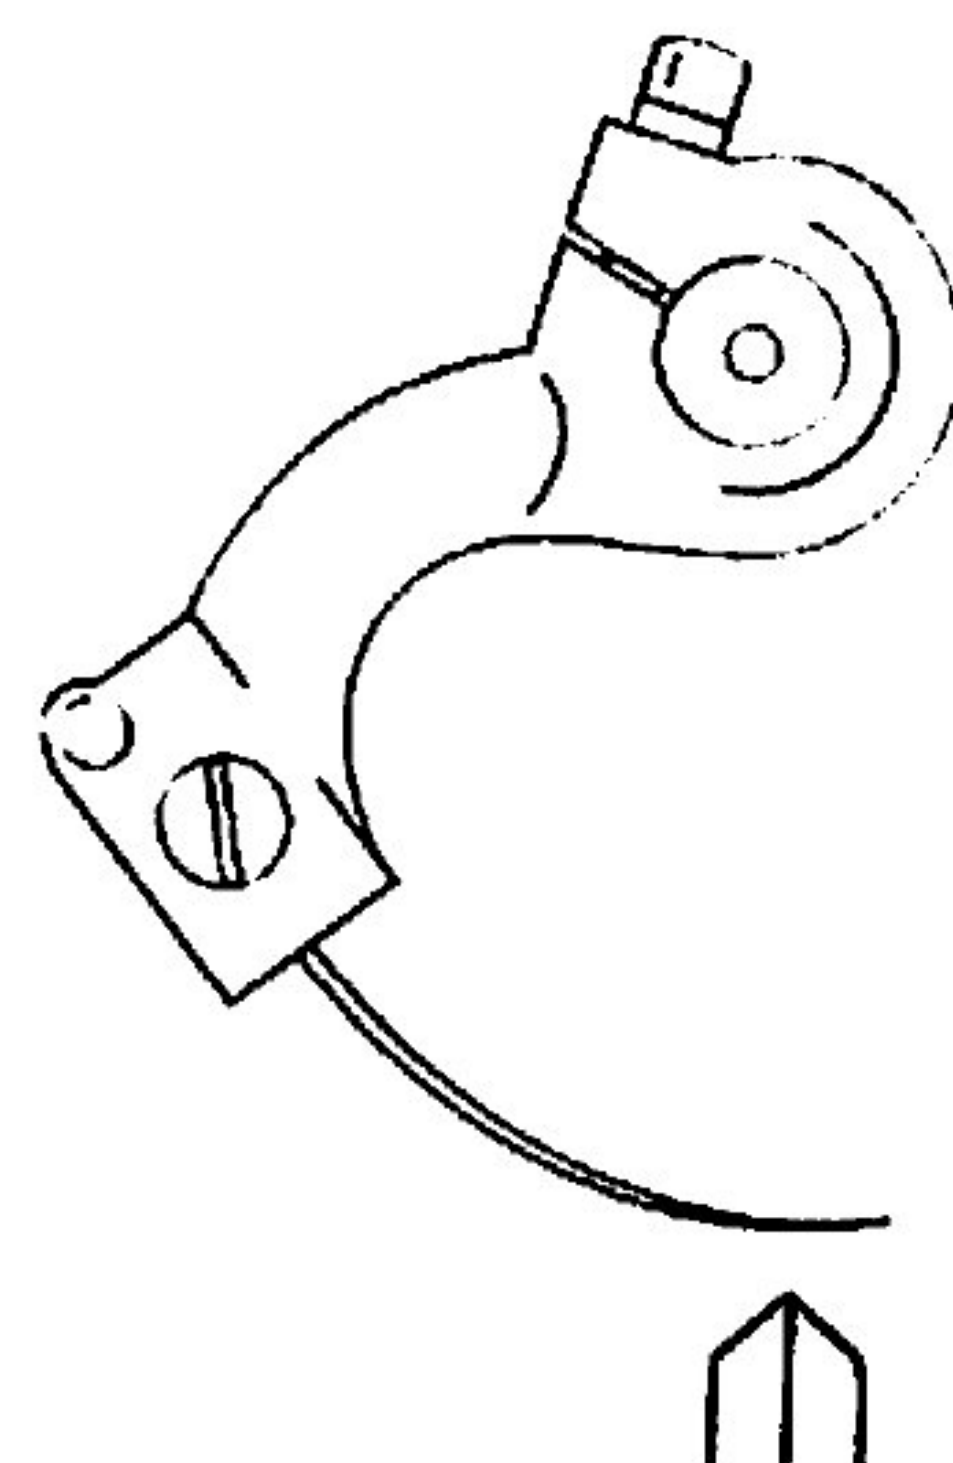

Fig. 2
5. If rib is away from needle (Fig. 2), turn dial toward "MORE" until rib just touches needle.